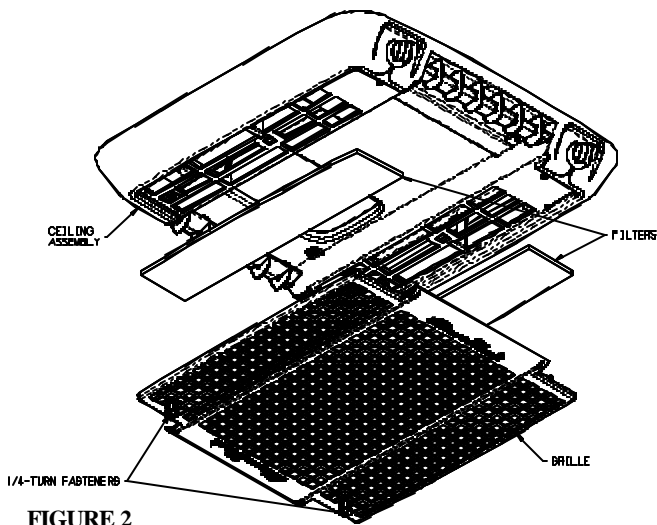

FIGURE 2
1. Disengage the two 1/4-turn fasteners that secure the ceiling assembly grille to the ceiling assembly (See Figure 2).
3. Take the filters out and either clean or exchange them with new filters (See Figure 2).